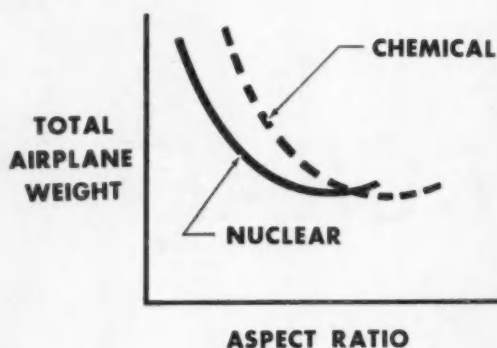

Fig. 6—Aspect ratio is lowered for given gross weight in nuclear aircraft. This is a combined effect of the powerplant and wing structural weight.
- Wing mounted reactors call for a lower aspect ratio wing for a given gross weight—see Fig. 6.